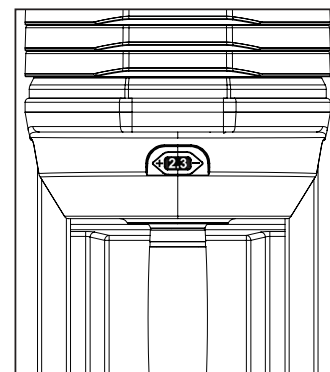

Figure 1
1. With the dumbbell handle set in the dumbbell base, turn the twist handle to the lowest number (Figure 1). You will know you have fully and correctly selected the number when you feel the twist handle settle into a notch (known as a detent). You will also hear a slight, but audible, clicking noise that corresponds with the detent locations for each number.